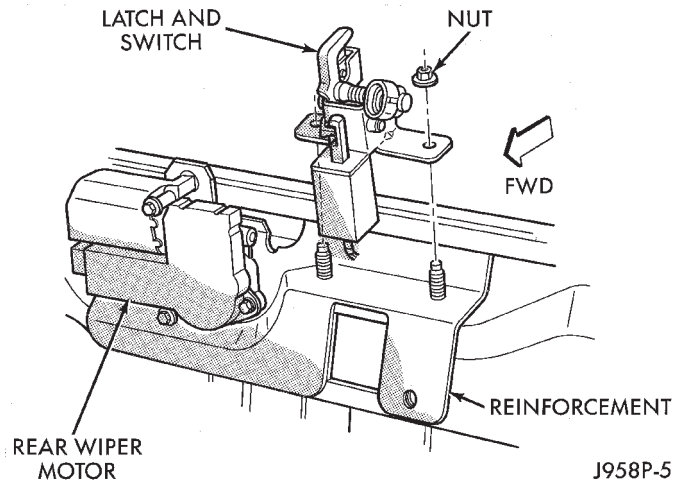

Fig. 71 Flip-Up Glass Latch
- (3) Remove latch nuts (Fig. 71).
- (4) Disconnect switch connectors.
- (5) Remove latch from liftgate.